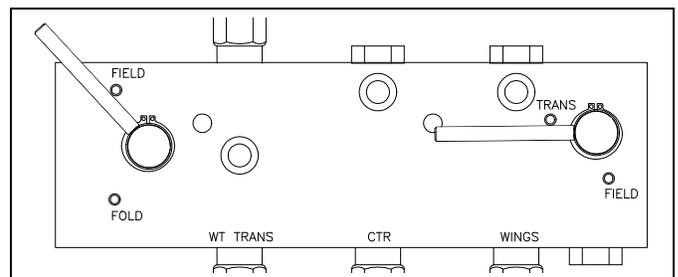

Figure 29
**Unfolding the Implement****Refer to Figure 29**